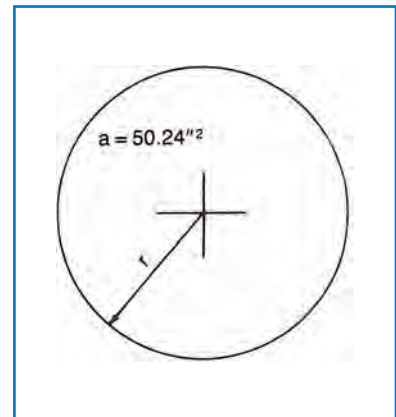

Fig. 19. Circle
**Fig. 19** shows a circle whose area (A) is 50.24 square inches. The formula for computing the area of a circle is  $A = \pi \times r^2$ , wherein,  $\pi = 3.14$  and  $r$  = radius of the circle.
What number, when multiplied by itself once, equals 16? You can see by quick inspection that  $4 \times 4 = 16$ . Thus, the square root of  $16 = 4$ , and this is the radius of the circle in Fig. 19.